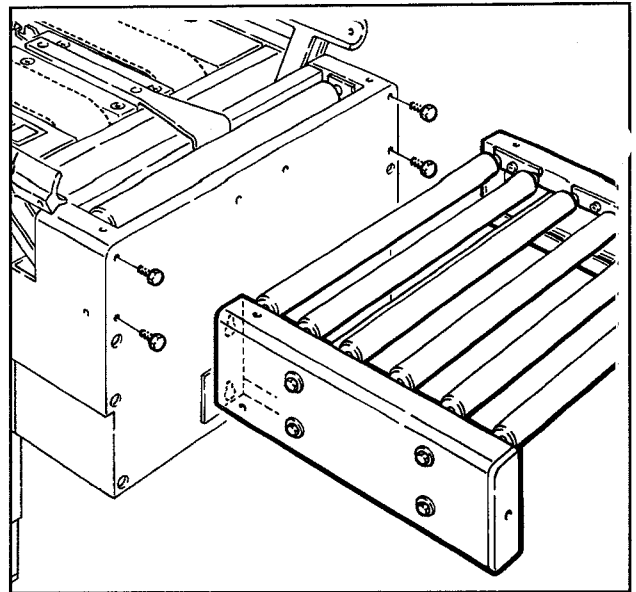

Figure 2-4 - Infeed Conveyor
3. To assemble the infeed conveyor, refer to Figure 2-4 and locate four bolt holes on the infeed end of the case sealer frame.